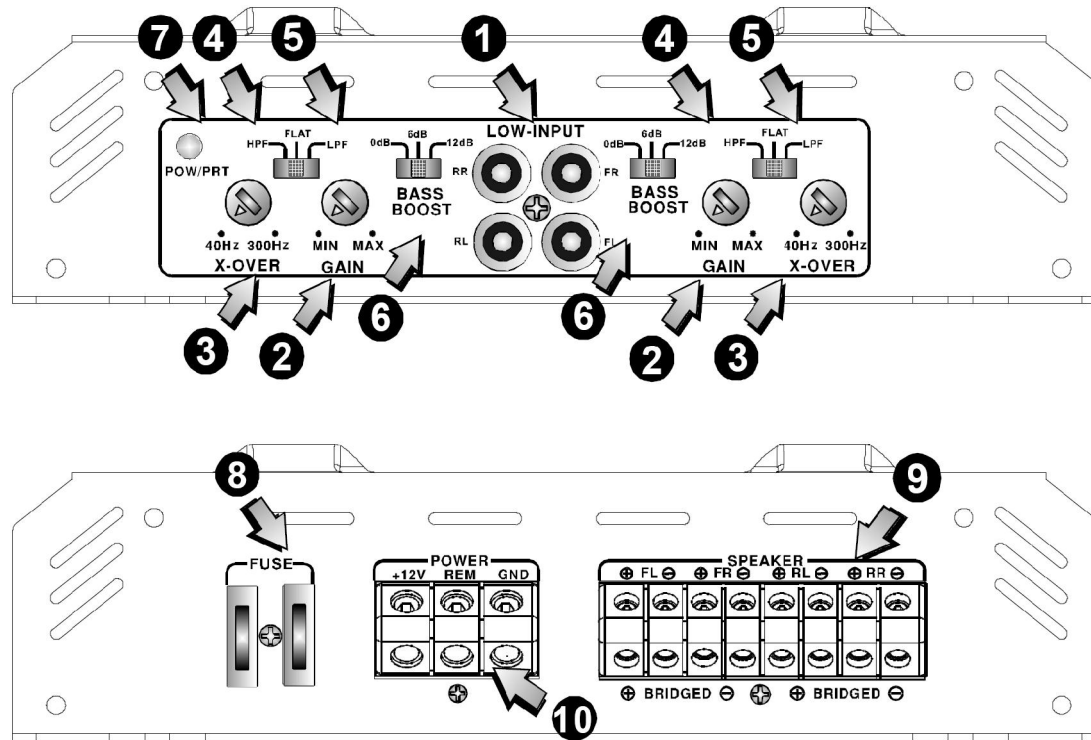

Fig. 6
The regulator for input sensitivity is used to adapt amplifier for each car radio or tape deck. Turn the volume control of your radio to central position and adjust the input-level control (2) Fig. 6, to produce medium volume. This setting can provide sufficient power and optimum Signal to Noise (S/N) ratio.